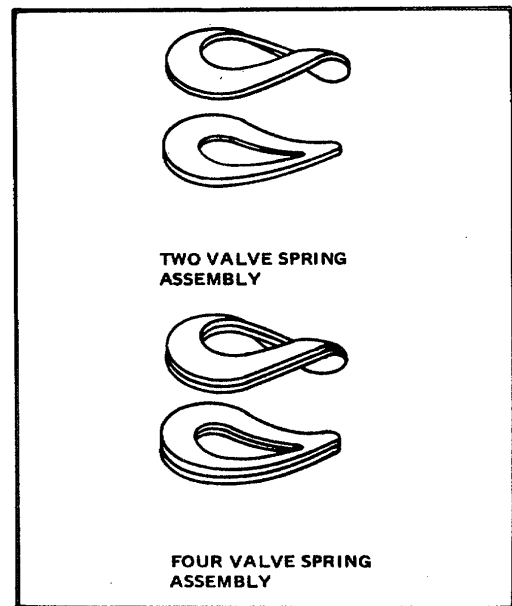

Figure 6-8. Lentoid Spring Assembly)Detail
A repair kit consisting of lentoid springs (12), valve ring (13), valve plate (14), spring plates (15), and cotter pin (11) is available. At overhaul replace these parts as a set. Assemble lentoid springs (12) as illustrated in Figure 6-8.
A repair kit consisting of valve ring (14), lentoid springs (12), valve ring (13), lentoid springs (15), and cotter pin (11) is available. At overhaul replace these parts as a set. Assemble lentoid springs (12 and 15) as shown in Figure 6-8.
A repair kit consisting of lentoid springs (11), valve ring (12), lentoid springs (13), valve ring (14), and cotter pin (10) is available. At overhaul replace these parts as a set. Assemble lentoid springs (11 and 13) as illustrated in Figure 6-8.
- (1) At overhaul of intake-exhaust valve assembly (8), use available repair kit (9). Assemble valve ring (14) and lentoid springs (13) in valve seat and assemble lower guard plate. Assemble valve ring (12), lentoid springs (11), upper guard and castle nut. Secure nut on center bolt with cotter pin (10).
- (2) Assemble valve gasket (15), valve assembly (8), head gasket (7), and cylinder head (4) to cylinder (16). Secure head to cylinder with lock washers (6) and cap screws (5). Torque cap screws (5) to 45 pounds foot (Table 6-2).
A repair kit consisting of lentoid springs (7), valve ring (8), closing spring (9), and valve disc (10) is available. At overhaul these parts shall be replaced as a set. Assemble lentoid springs (7) as illustrated on Figure 6-8.
(2) At overhaul of intake-exhaust valve assembly (5) use available repair kit. Assemble valve disc (10), closing spring (9), and assemble the upper guard onto seat. Install valve ring (8) and four lentoid springs (7) (see Figure 6-8) and assemble lower guard into seat.
- (3) Assemble valve gasket (11), intake-exhaust valve assembly (5), head gasket (4), cylinder head (1) and secure with lock washers (3) and cap screws (2). Torque cap screws (2) to 45 pounds foot (Table 6-1).